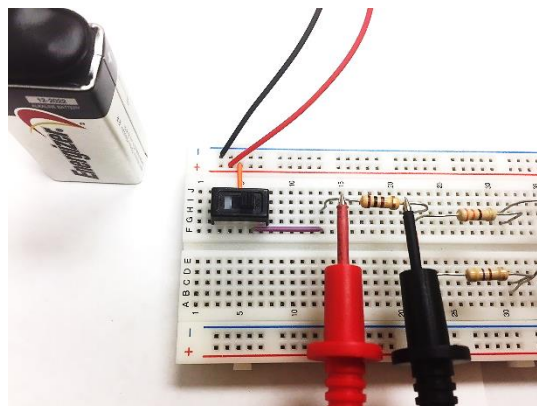

Figure 3.3 – Measuring voltage across a resistor
- To measure the voltage drops at a resistor, simply place the DMM measurement's leads "across" the resistor as shown in Figure 3.3.